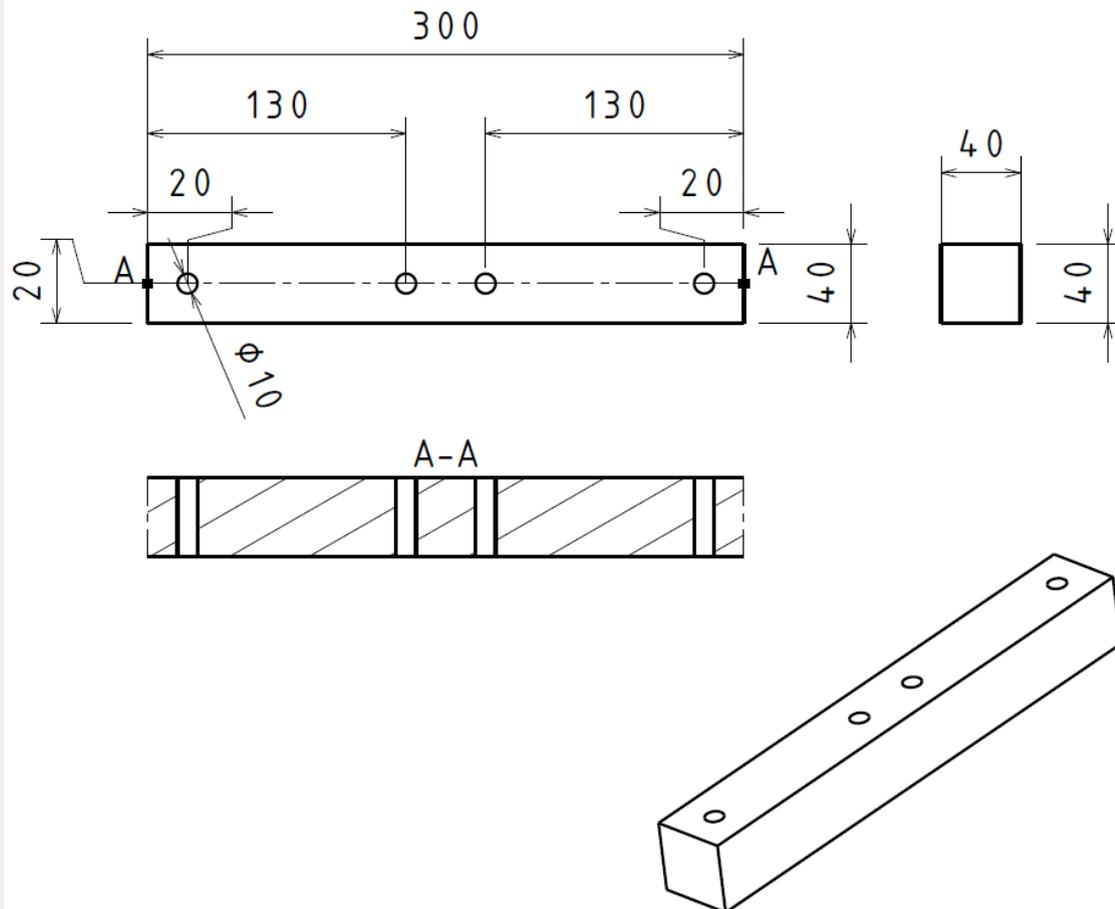

Figure 8: 4 $\phi 10$ mm holes drilled in the 40x40x300mm rear wooden bulk
Step 2: From the purchased wooden bar (with dimensions 40x40x1000mm), saw four segments of wood. Two of them with a length of 320 mm (see Fig. 8) and two with a length of 300 mm (Fig. 8 and 9).